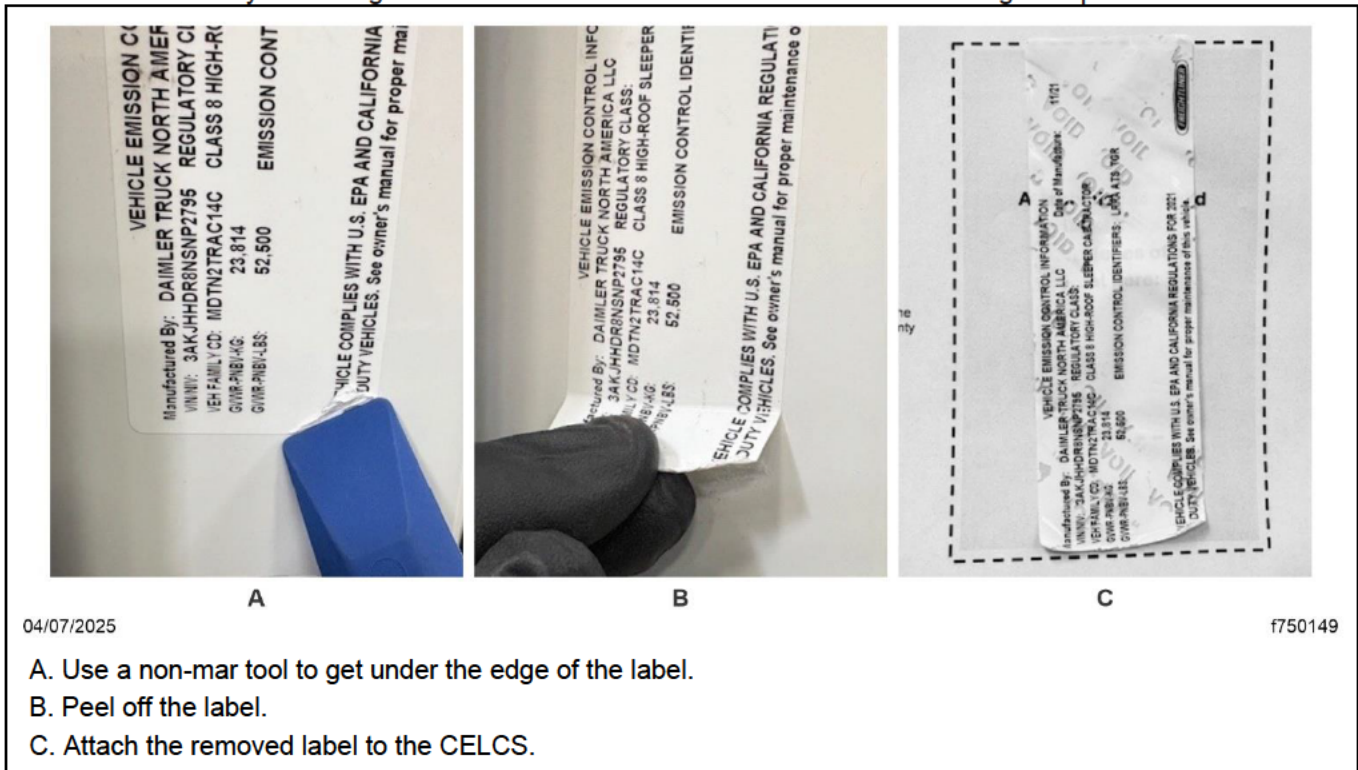

Fig. 3, Removing the Label and Attaching it to the CELCS
- 5.2. Once the label is warm, use a non-mar tool to get under the edge. See Fig. 3.